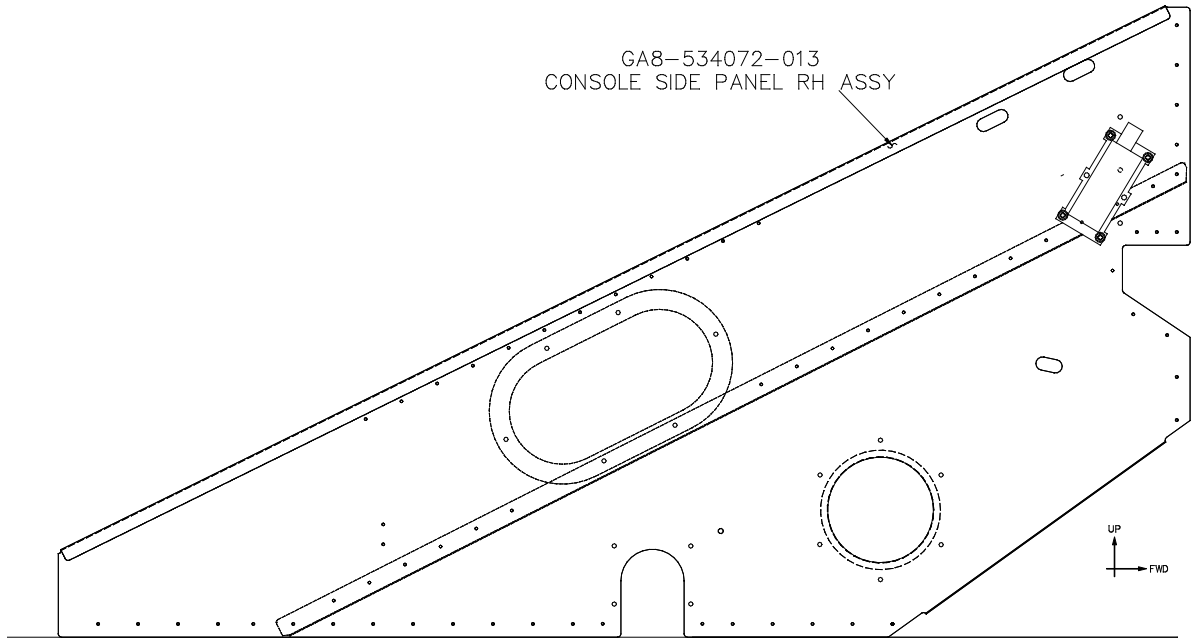
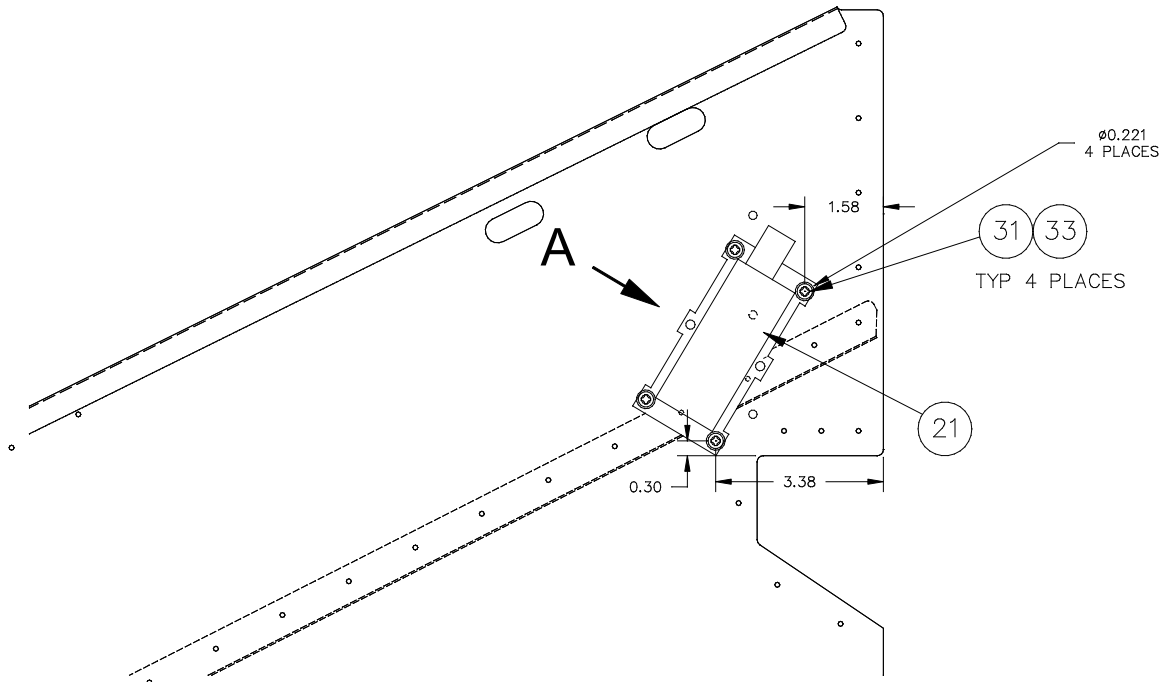
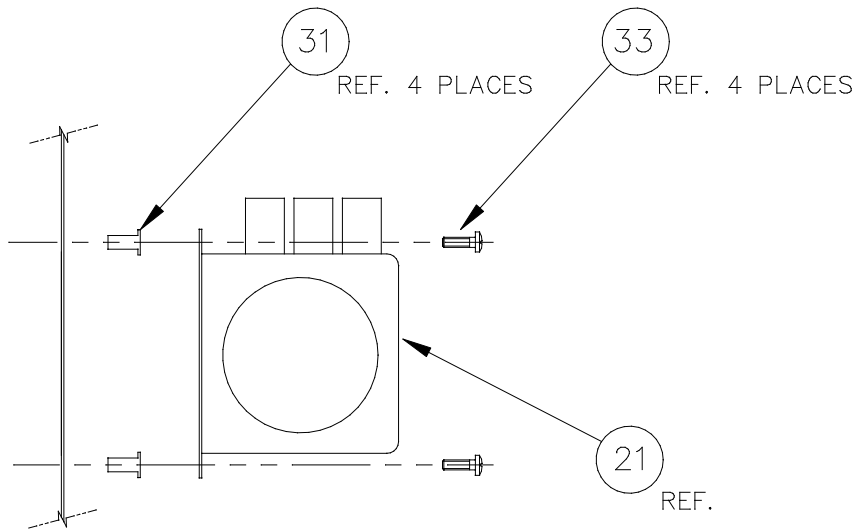

Figure 1 – Non dimensioned location of replacement fan
Figure 2 – Location of installed fan
Figure 3 – View A
- 1.3. Install the LoneStar fan in accordance with Figure 1, Figure 2 & Figure 3. Take great care when locating the fan to the structure to avoid drilling through the stringer shown in Figure 2.